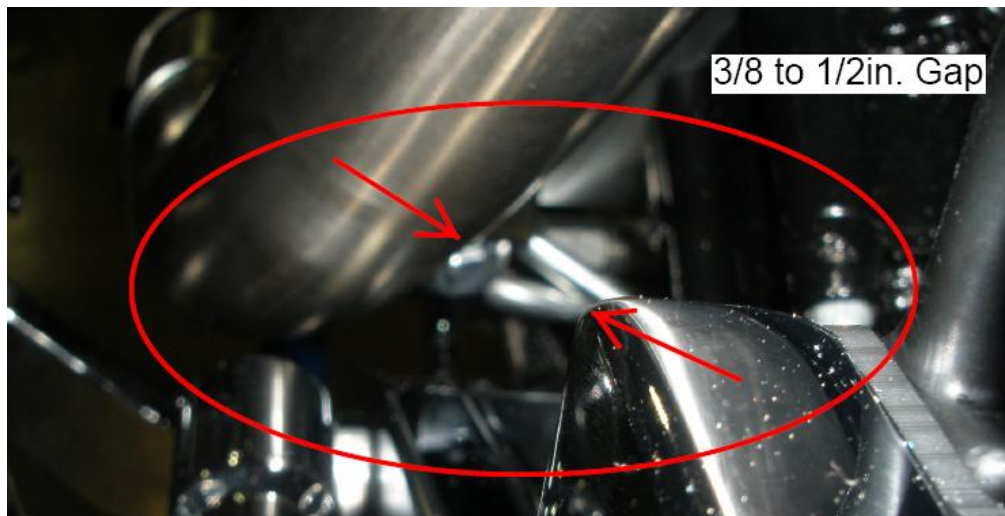

Fig. 2: Headpipe to Foot Control Clearance
6.) With the minimum CV/Headpipe gap achieved, align the Front Headpipe until there is a clearance of approx. 3/8 to 1/2in. between the Headpipe O.D. and the nearest edge of the Foot Control Mounting Bracket (Fig. 2)